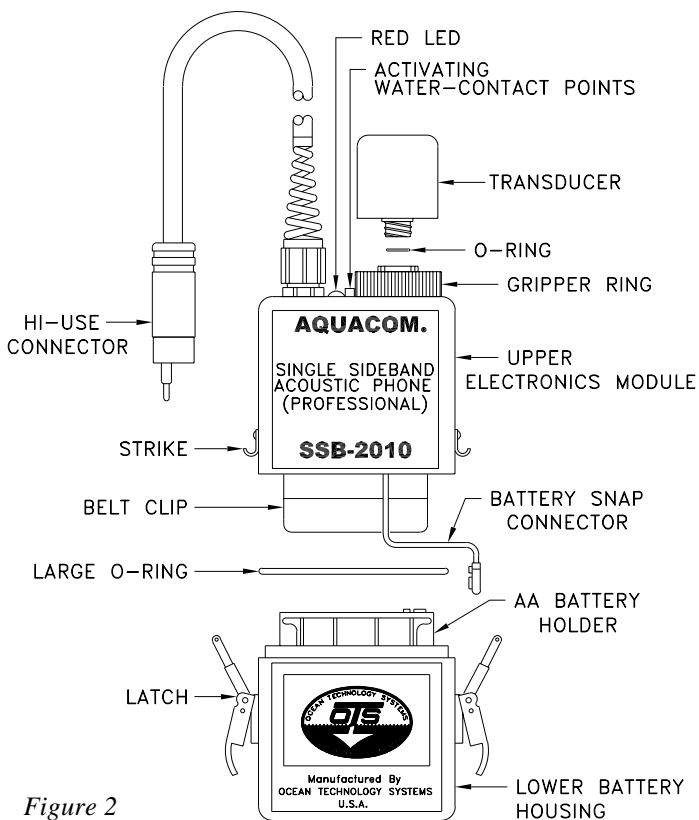

Figure 2
The housing is divided into two major parts: the upper electronics and the lower battery sections (Figure 2). An o-ring between the sections serves to maintain the housing's watertight integrity. Stainless steel latches maintain a constant pressure that pre-loads the o-ring and prevents leakage within specified depths. (Note: The upper and lower housings are a matched set; do not mix them up with those of other transceivers.)
2.10.1 Transducer: The transducer provides the "antenna" for the transceiver. It is removable via a connector mounted on the top of the housing. A large ring provides a means to easily remove and reinstall the transducer (Figure 2). When using the RB-11 nickel-metal hydride (NiMH) battery pack (optional with the SSB-2010), the transducer's housing connector is also utilized to charge the NiMH battery pack (see the Battery Installation and Charging section). This feature makes it easy to charge the NiMH battery pack without having to open the transceiver.
STEP 5: Locate the two activating water-contact screws on the top of the upper module between the transducer gripper ring and the red LED (Figure 2). Moisten your fingers and place them across the screws to activate the unit (hold onto the screws about 10 seconds). The unit will stay on for approximately 2 minutes out of water. The red LED will illuminate while power is on.